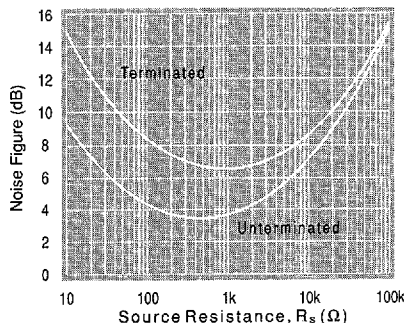

Figure 6: Noise Figure vs. Source Resistance
Noise Figure (NF) can be defined as the ratio of the total output noise power (e_{no}) to that portion of output noise power caused by the source resistance ($e_n * A_v$) and is so expressed in Equation 3. This definition assumes an unterminated source and that the parallel combination of R_i and R_g is chosen to equal to R_s for bias current cancellation. The curve labeled "Unterminated" in Figure 6 is a plot of NF vs. R_s and for a 50Ω source the CLC425's NF is 5.26dB.